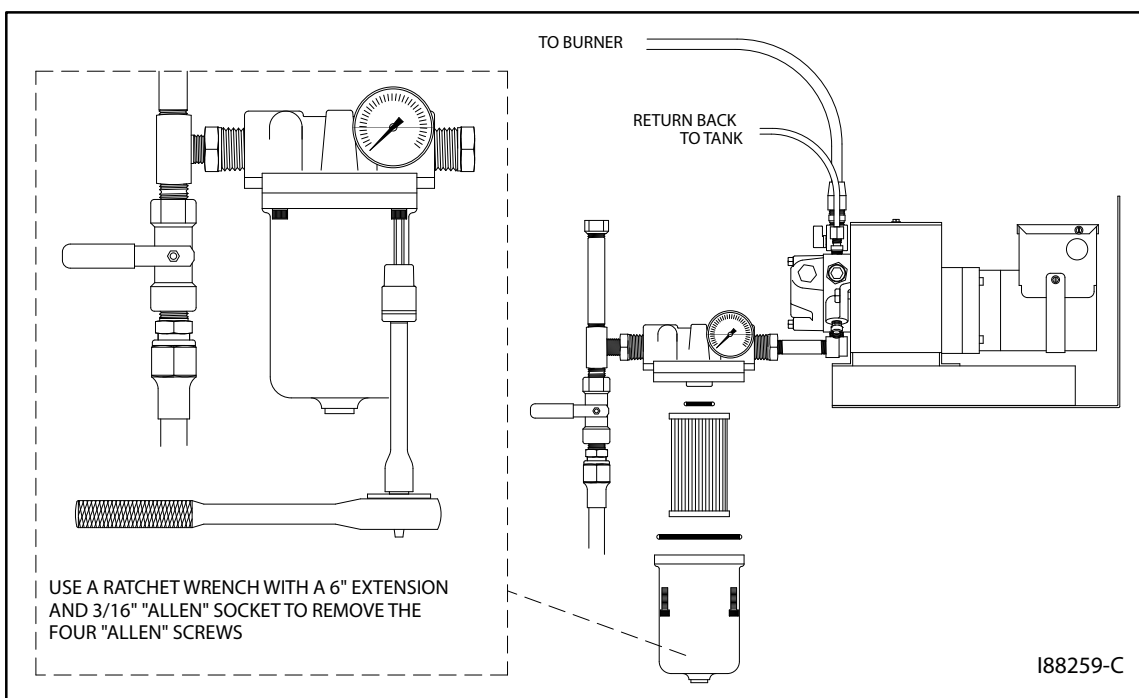

Figure 9A - Canister Filter Component Detail
6. Referring to Figure 9A, examine the filter components as you reassemble them.